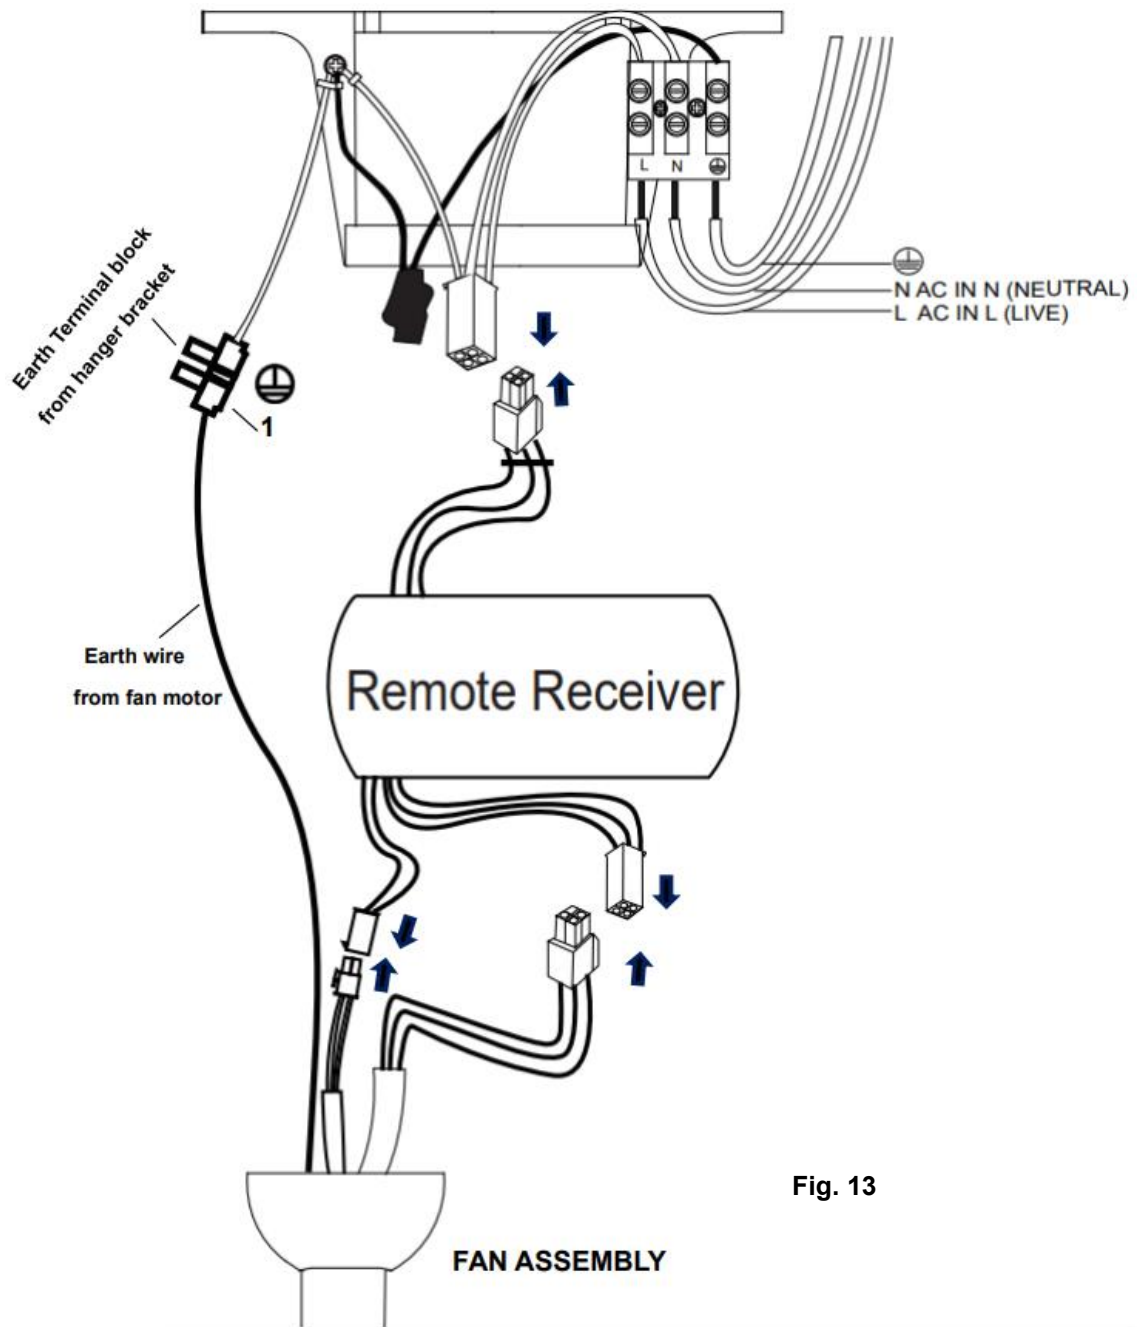

Fig. 13
**ELECTRICAL WIRING DIAGRAM THE FAN****PREPARE AND COMPLETE THE ELECTRICAL WIRING --- WIRING DIAGRAM (FIG. 13)**
**NOTE:** Ensure the motor earth wire is connected to the single earthing terminal block “1” in the diagram below (Fig. 13).
**From mains supply to mounting bracket terminal block: (Fig. 13)**
**From mounting bracket to receiver and motor: (Fig. 13)**